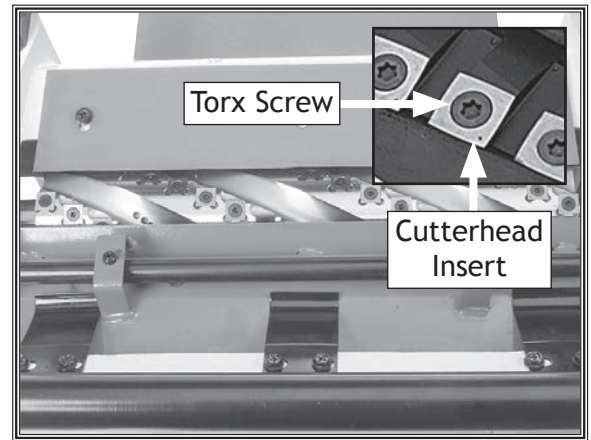

Figure 7. Insert and Torx screw location.
6. Remove Torx screw and insert (see **Figure 7**), then clean all dust and debris from both parts and cutterhead pocket.